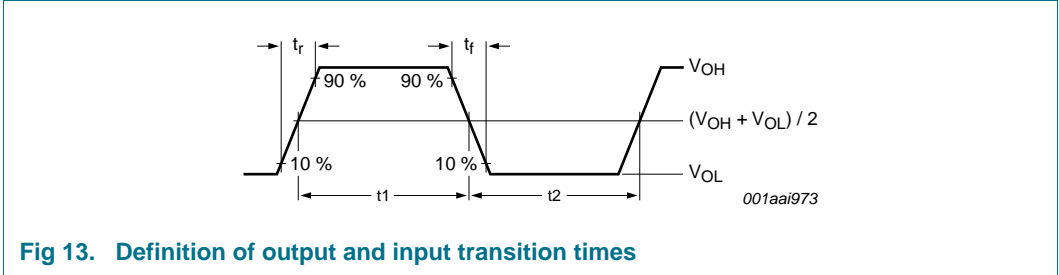

Fig 13. Definition of output and input transition times
- [5] The transition time and the duty factor definitions are shown in Figure 13 on page 20; $\delta = t1 / (t1 + t2)$.